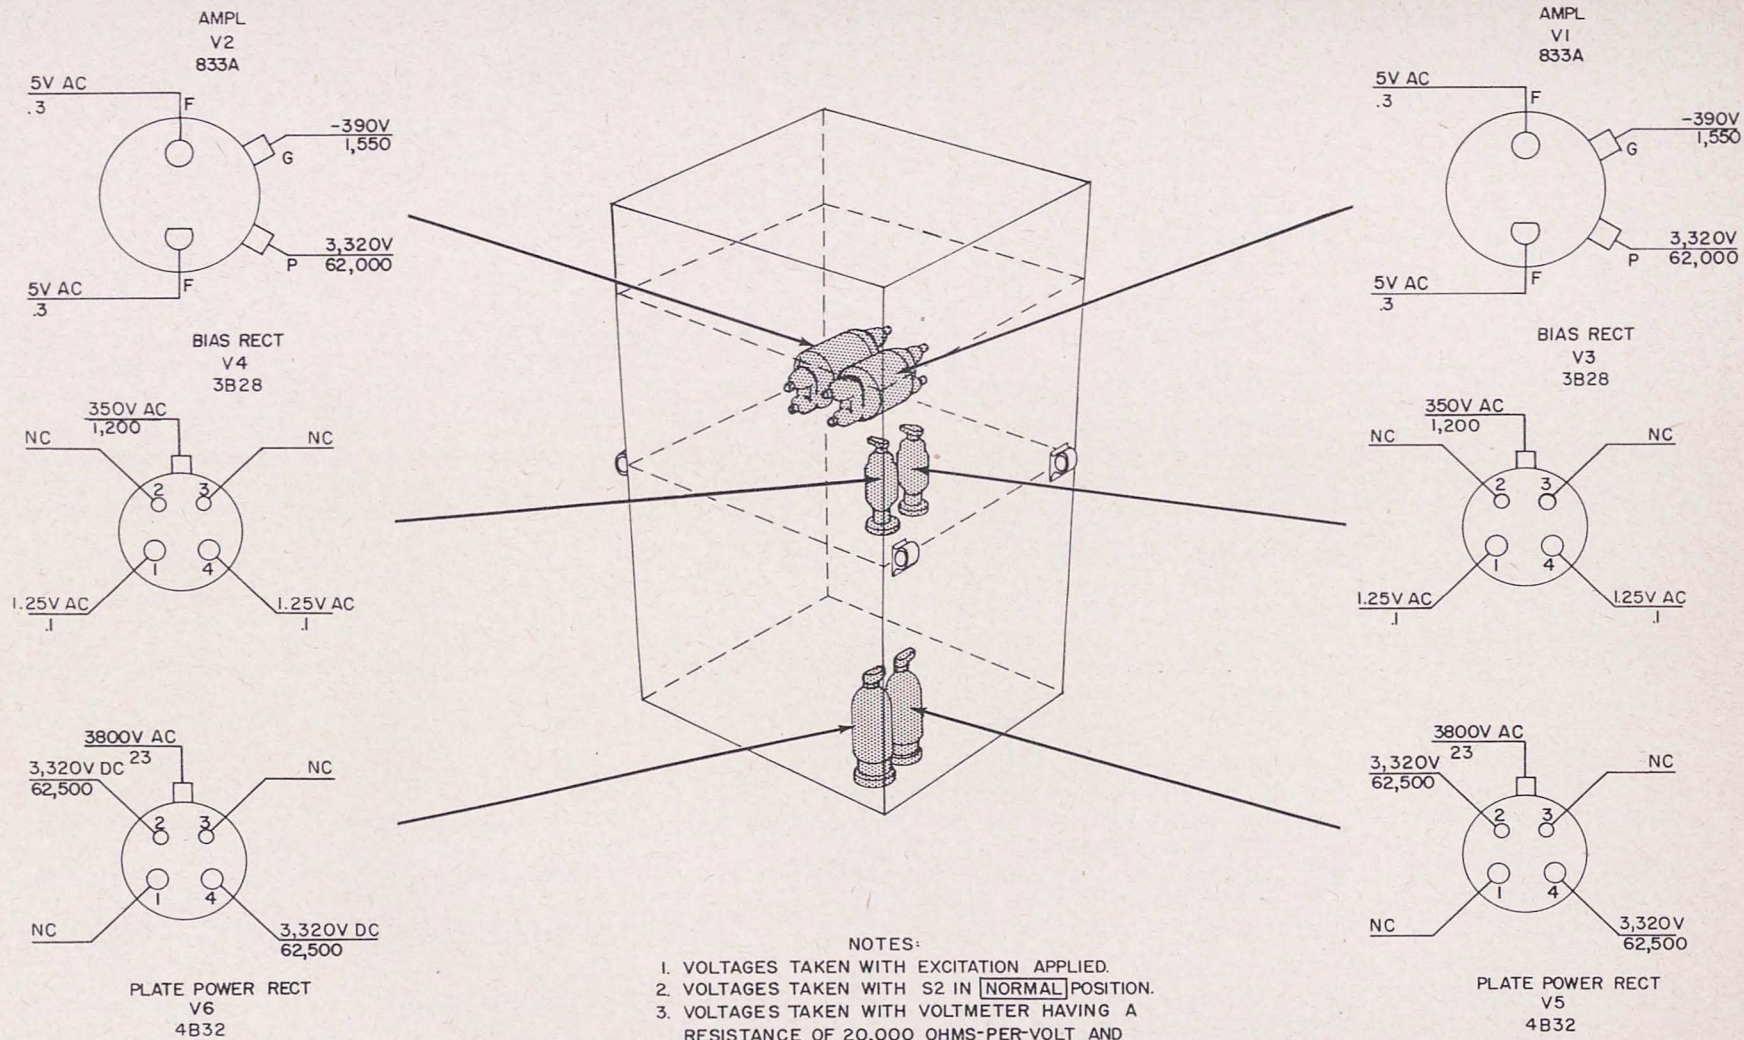

Figure 76. Amplifier AM-141(\*)/MRC, tube socket voltage and resistance diagram.
To assist maintenance personnel in the servicing of defective amplifiers, a tube socket voltage and resistance diagram (fig. 76), supplementary voltage measurement chart (subpar. *b* below), and a supplementary resistance measurement chart (subpar. *c* below) are included in this manual.
*a. Tube Socket Voltage and Resistance Diagram (fig. 76).*
(1) When making voltage measurements on